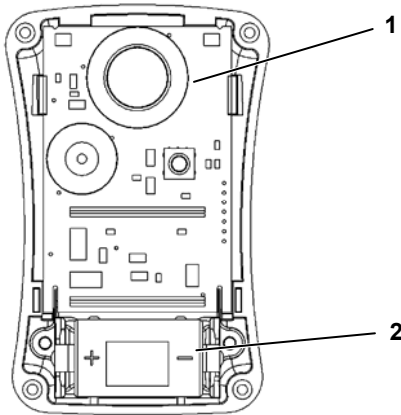

Fig. 9 Sensor and Battery Replacement
- (1) Remove the four screws securing the case halves together.
- (2) Carefully remove the front cover to expose the sensor (located near the top of the instrument, near the alarm lights → Fig. 9).
- (3) Remove the sensor from its sockets.